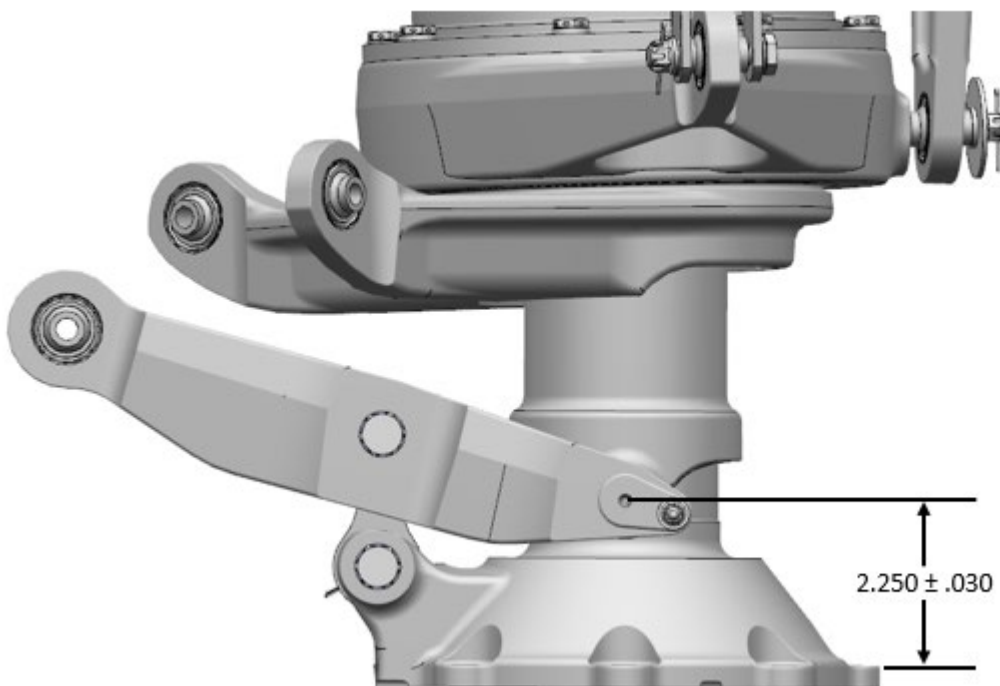

FIGURE 11 – Collective Lever Height Setting
- h. Position the 206-010-447-109 collective lever height between 2.22 and 2.28 inches (56.39 and 57.91 mm) (Figure 11).